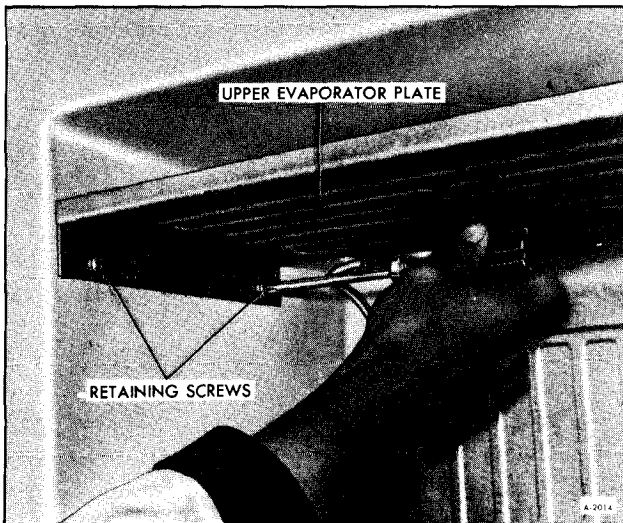

Figure 11—Removing Evaporator Screws
2. Remove eight screws from upper and lower evaporator plates, four screws in each (figure 11).
6. Secure evaporators with eight screws (figure 11).